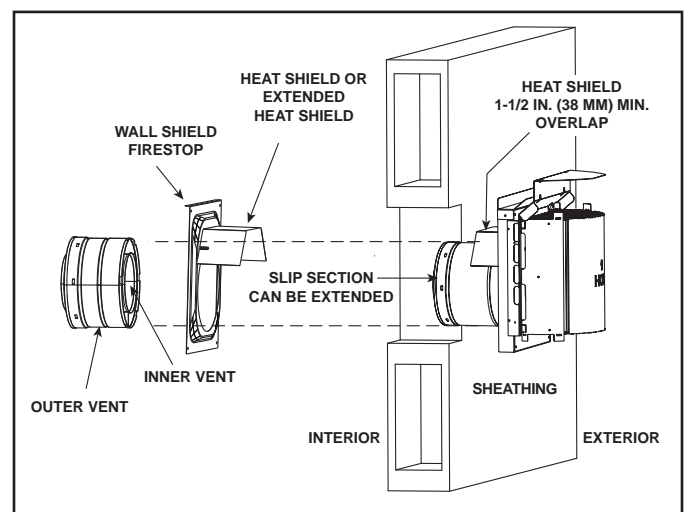

Figure 10.16 Venting Through the Wall
- **DO NOT** remove the heat shields attached to the wall shield firestop and the horizontal termination cap (shown in Figure 10.16).
There are two sections of the heat shield. One section is factory-attached to the wall shield firestop. The other section is factory-attached to the cap. See Figure 10.16.